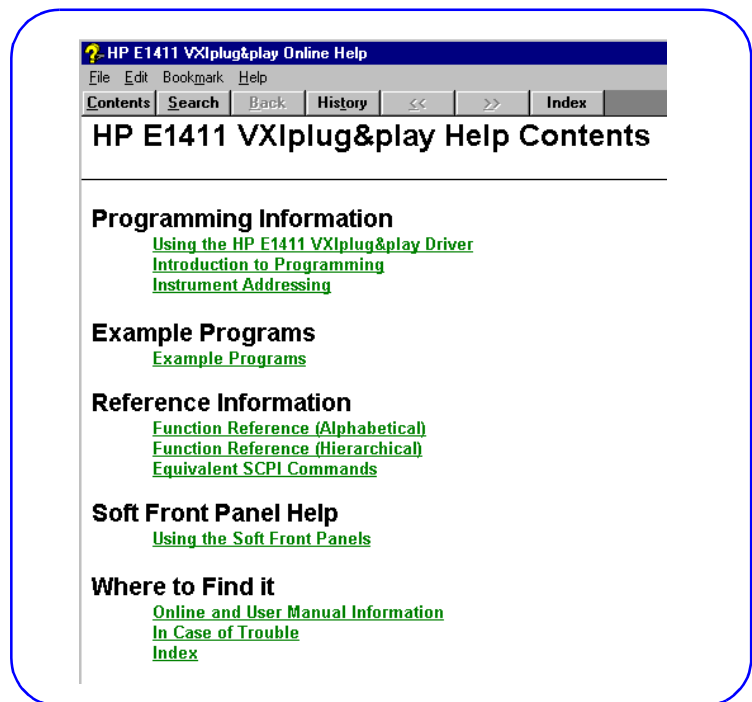

Figure 38. Typical VXIplug&play Help File Main Menu
- 2 For the first VXI instrument to be programmed, open the applicable instrument *VXIplug&play* Help File (*Start/Programs [Vxipnp] instrument help icon*). Figure 38 shows a typical *VXIplug&play* Help File main menu for the HP E1411 DVM that is displayed when you click *Start/Programs/Vxipnp/HP E1411 Help (32-bit)*.